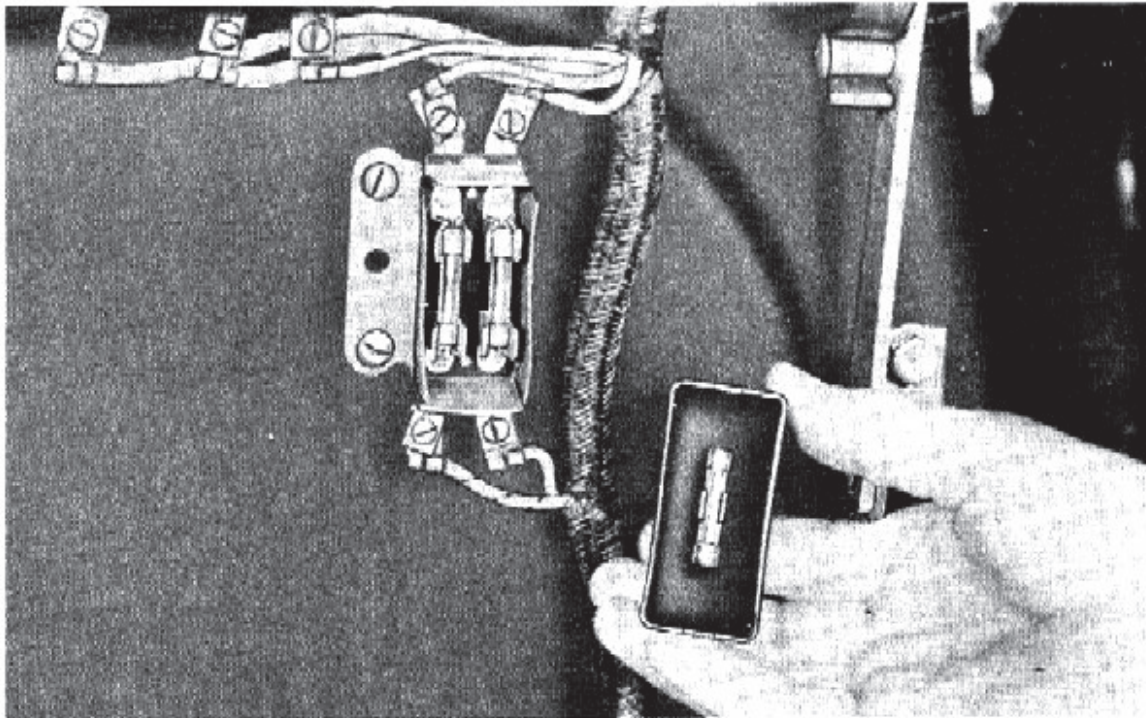

Fig. 62—Fuse Box
**Description.** The fuse box on all models except Forward Control units is mounted on the left side of the cowl (fig. 62). Fuse box on Forward Control units is generally located above the steering column under the instrument panel. Twenty ampere fuses are used for the tail light and stop light circuits. All other lights are protected by a circuit breaker located in the lighting switch.
**Fuse Replacement.** In case tail or stoplights should fail to operate it is advisable to check the fuse in that circuit. See Figure 62. Remove the cover. Pull the fuse straight out of the fuse clips and replace it with a fuse known to be in good condition. Place the cover in position and snap into place. In case the new fuse burns out as soon as the circuit is tested, the cir-